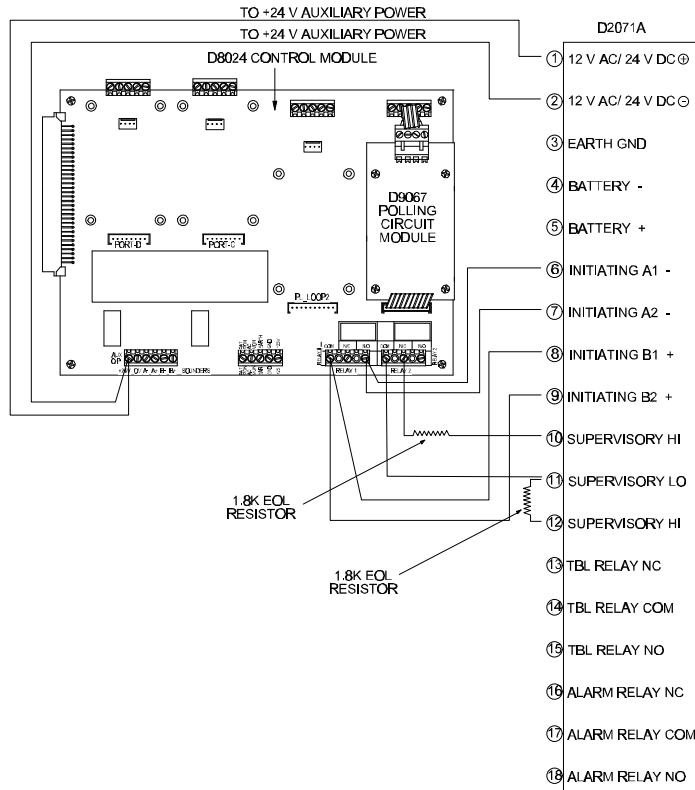
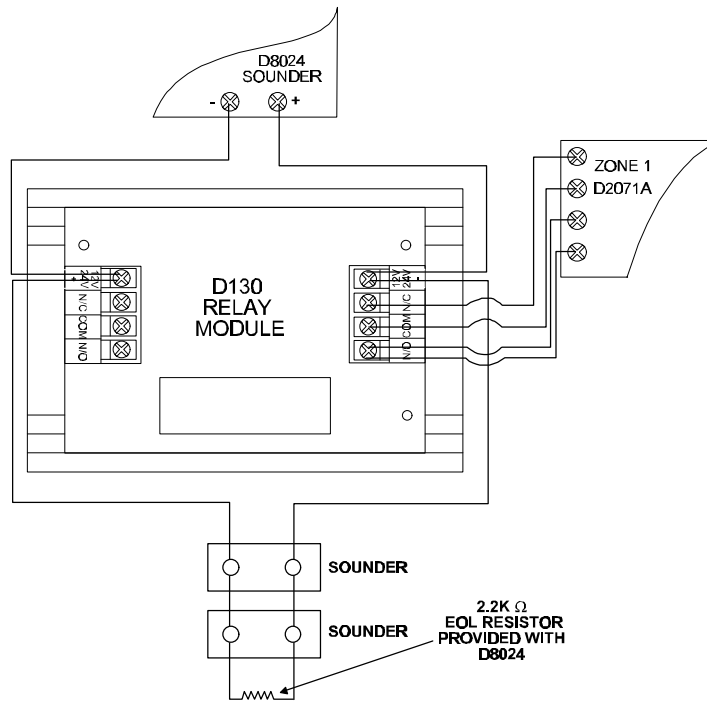

Figure 15: D8024 - D2071A Wiring Connections
Figure 16: Wiring the D8024 for Sprinkler Supervision
- Terminals 1 and 2 on the D2071A may be connected to the 24V Auxiliary Power on the D8024. See Figure 15 for wiring connections.
To provide a fire alarm output to the D2071A, a D130 Relay Module is required to obtain the additional necessary output to the D2071A. Refer to Figure 16 for wiring details.
- When sprinkler supervisory reporting is required, three conditions are required to be signaled from the panel to the D2071A: fire alarm, supervisory alarm and system trouble. Two conditions can be generated by the two relays on the panel: trouble and supervisory alarm as shown in Figure 15. The fire alarm can then be generated as shown in Figure 16.
- Connect the ground wire to the ground input (left) terminal on 2 Amp fuse holder. Connect the 120V neutral wire to the middle terminal. Connect the line wire to the right terminal. See Figure 15.